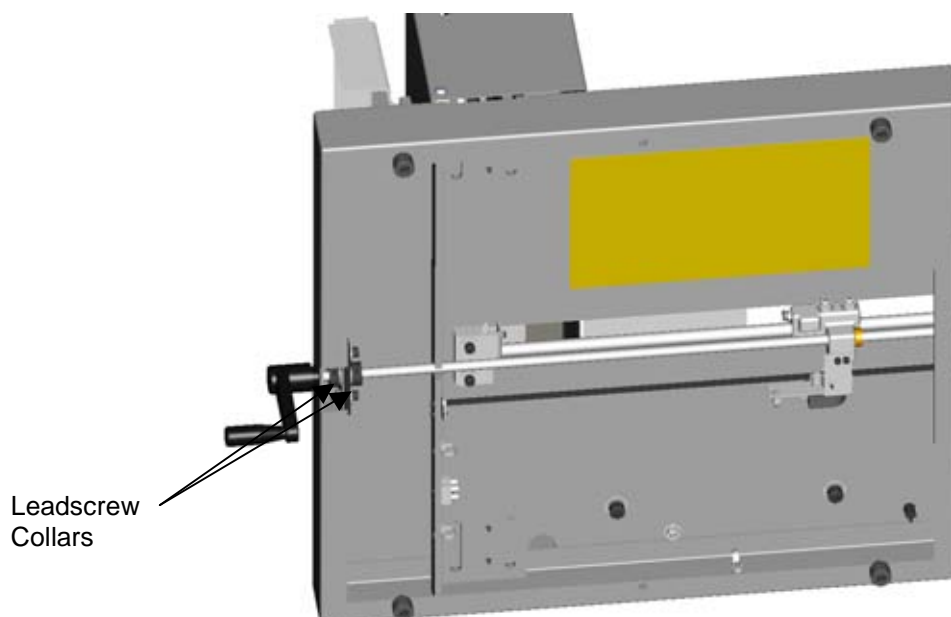

Figure 15
3. Loosen the two screws attached to each collar (Figure 15).